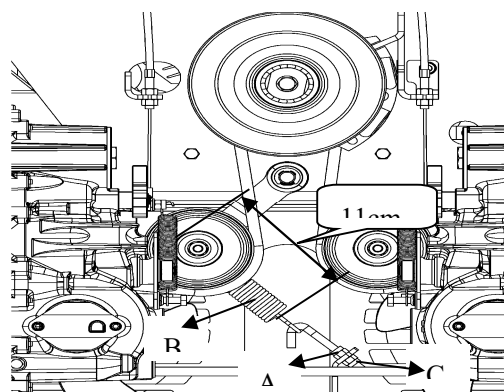

Fig. 19
The way is similar to the above of Deck Belt Adjustment .The idler spring (B) body length should measure approximately 11cm for proper belt tension(Refer to Fig. 19).